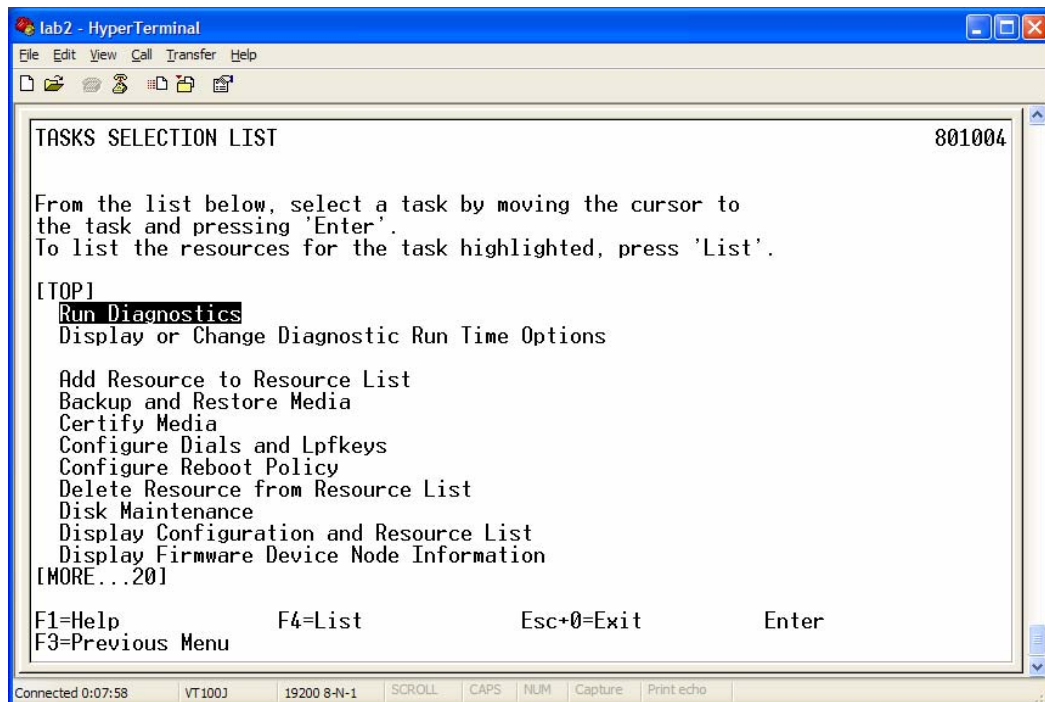

Figure 18. Selecting the Run Diagnostics task
10. From the Tasks Selection List, move your cursor to highlight the **Run Diagnostics** task. Then, press **Enter** (see Figure 18).